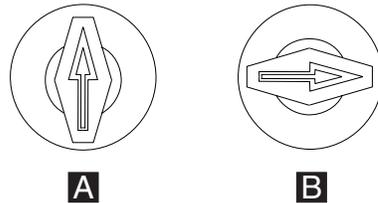

Figure 21. Aligner positions
1. The lock must be in the appropriate position (**C** in Figure 21).
1. Place the aligner into the empty cylinder, and gently turn the aligner until you feel it go into the slot at the bottom of the lock cylinder. Turn it to the appropriate position (**C** in Figure 21 on page 21).
3. When replacing the blank lock insert, switch the lock to the service position (**C** in Figure 21 on page 21).